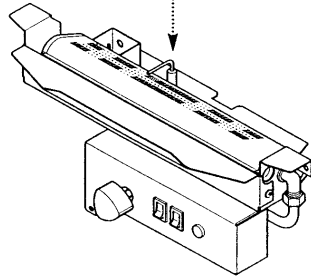

Fig. 56
2. Undo the screws holding the fan outlet plenum to the fan box. Manoeuvre the plenum from the box taking care not to damage the rear gasket (Fig. 56). Note the position of the three wires to the fan and remove them. Disconnect the sensing tube from the fan (Fig. 58).